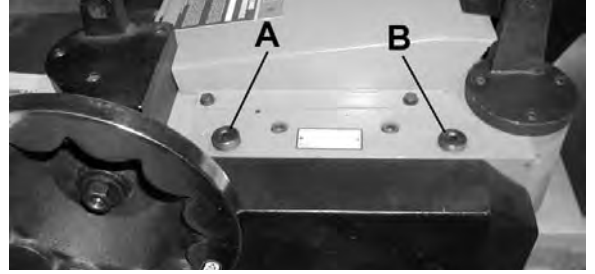

FIGURE 22
To adjust the spring tension of the infeed and outfeed roller, using a hex key, turn set screw (A) Fig.22 to adjust the infeed roller spring tension and set screw (B) to adjust the outfeed roller spring tension. Make sure that both sides are adjusted evenly or else you will get uneven feeding of stock.